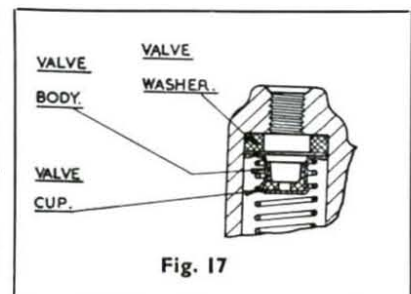

Fig. 17
At the end opposite to the push-rod, an end plug (15) screws down against a gasket (14); this plug forms the outlet connection and its inner face provides a seat against which a check-valve assembly (13) is loaded by the spring (with the types of cylinder illustrated on Figs. 12 and 13 the end plug is not fitted, and a rubber washer seats against the end of the cylinder bore). The check valve fitted in this type is illustrated in Fig. 17). The check valve Ref. 13, Fig. 14, is fitted in some units and comprises a rubber body incorporating a metal insert in which a number of holes are drilled. These holes are sealed in one direction by the rubber valve body. In other units the check valve (13A) consists of a dome shaped metal body drilled with a number of holes which are sealed in one direction by a rubber seal secured to its concave side.